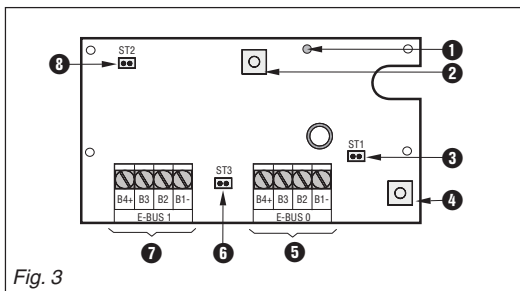

Fig. 3
3.2.1 SMG 91 circuit board (fig. 3)
The terminals are shown in fig. 3
If the SMG 91 circuit board is not fitted in the SAG 91 housing, the plug connector (fig. 3 ; ❶) must be connected to an external tamper contact or be short-circuited. Use the socket connector provided to connect to an external tamper contact.